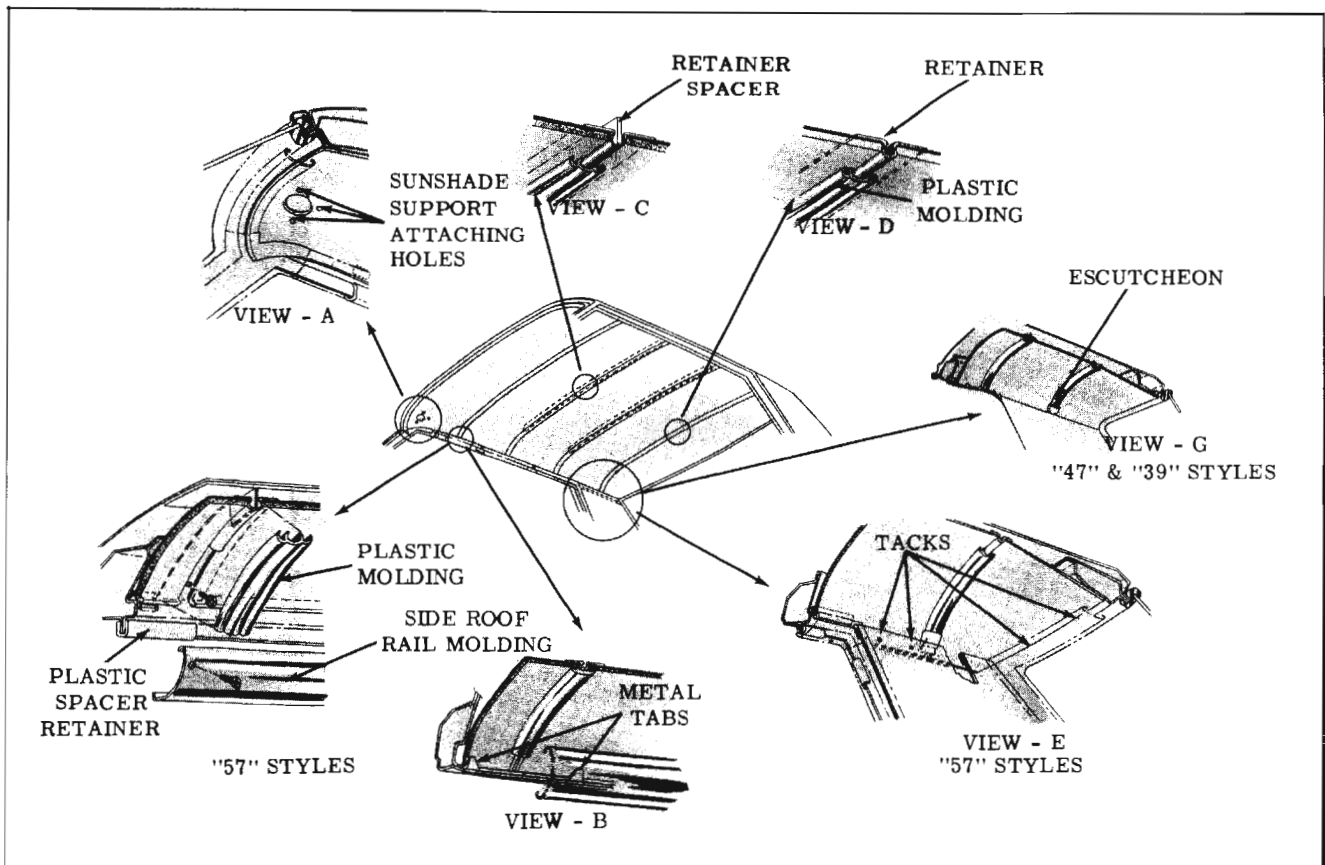

Fig. 16-9 Headlining Installation
4. Apply a ribbon of medium-bodied sealer completely around base of rubber channel. (View 1, Fig. 16-9)
5. Inspect condition of each molding clip, install new clips where necessary, make certain clips are properly sealed to pinchweld and body (View 2, Fig. 16-9) except "67" styles.
9. Using a pressure type applicator, seal inner and outer lips of rubber channel to glass with weatherstrip adhesive. (View 4, Fig. 16-9) Seals are to extend completely around rubber channel.
11. On outside of windshield, apply medium-bodied sealer between windshield rubber channel and opening across top and sides. (View 5, Fig. 16-9)
5. Using a pressure type applicator, seal inner and outer lips of rubber channel to glass with weatherstrip adhesive. (View 4, Fig. 16-9) Seals are to extend completely around rubber channel.
6. On outside of windshield, apply medium-bodied sealer between windshield rubber channel and opening across top and sides. (View 5, Fig. 16-9)